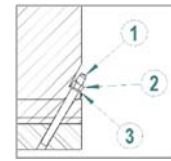

Figure 4.12: Dowel pin set
After aligning the set and having assured a perfect alignment (**both, hot and cold**), the motor must be doweled to the anchor plate or to the base, as shown in Figure 4.12.
**Figure 4.12 legend:**